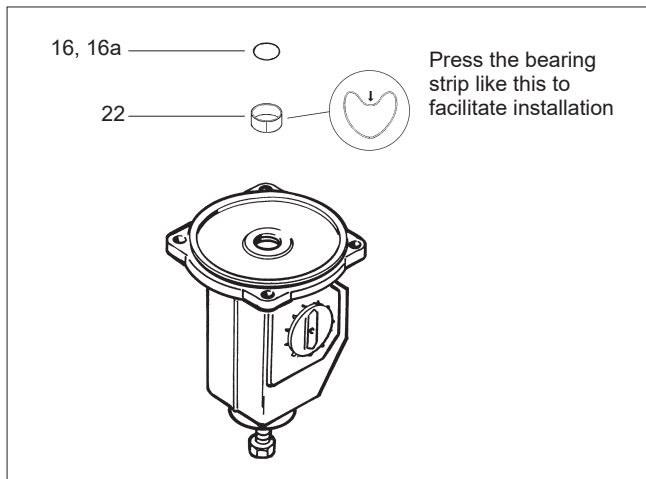
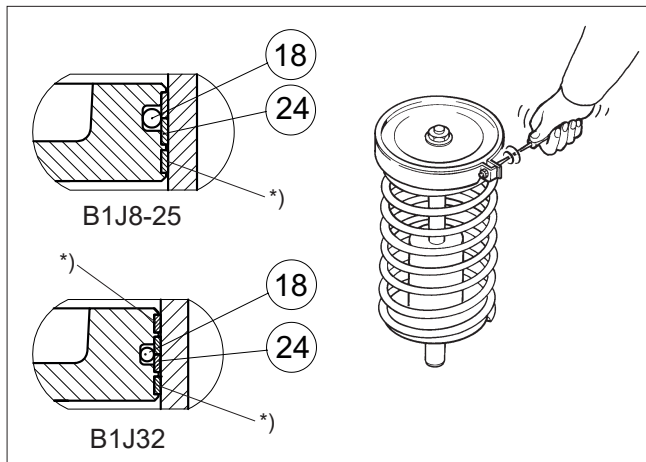
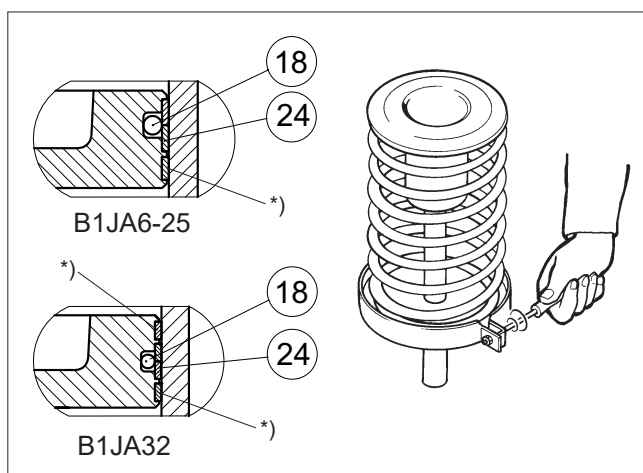

Fig. 11 Mounting the piston rod bearing and seal
Fig. 12 Tightening piston seals with a tie ring
Fig. 18 Tightening piston seals with the tie ring
- Lubricate seal space and new O-rings (16, 16a) with Unisilikon L250L or equal silicone grease. Lubricate seal space with Cortec VCI-369. Install new bearing (22) and O-rings (16, 16a), see Fig. 11.
- Install the O-ring (18) located under the piston seals.
- Place piston seals (24) around the piston so that the ends of the strips are located at opposite sides. Tighten the strips with a tie ring as in Fig. 12. Strips indicated with an asterisk can be cut 1.5 to 3 mm shorter to facilitate assembly.
- Remove the cylinder base side stop screw (27).
- Remove cylinder fastening screws (31) from the cylinder base (6) side. Lift the cylinder off together with the end.
- Remove housing cover (2).
- Turn the linkage enough (by supplying sufficient pressure in to cylinder) to expose the bearing unit fastening screw (29).
- Remove piston rod seal (16, 16a) and bearing (22). Clean the seal space.
- Lubricate seal space and new O-rings (16, 16a) with Unisilikon L250L or Molykote III. Lubricate seal space with Cortec VCI-369. Install new bearing (22) and O-rings (16, 16a), see Fig. 11.
- Place piston seals (24) around the piston so that the ends of the strips are at opposite sides. Tighten the strips with a tie ring as in Fig. 18. Strips indicated with an asterisk can be cut 1.5 to 3 mm shorter to facilitate assembly.